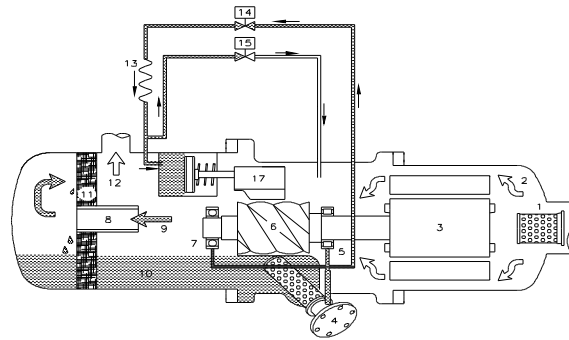

Fig 2.3 Continuous capacity control system
2.2.2 Continuous capacity control system (See FIG 2.3)